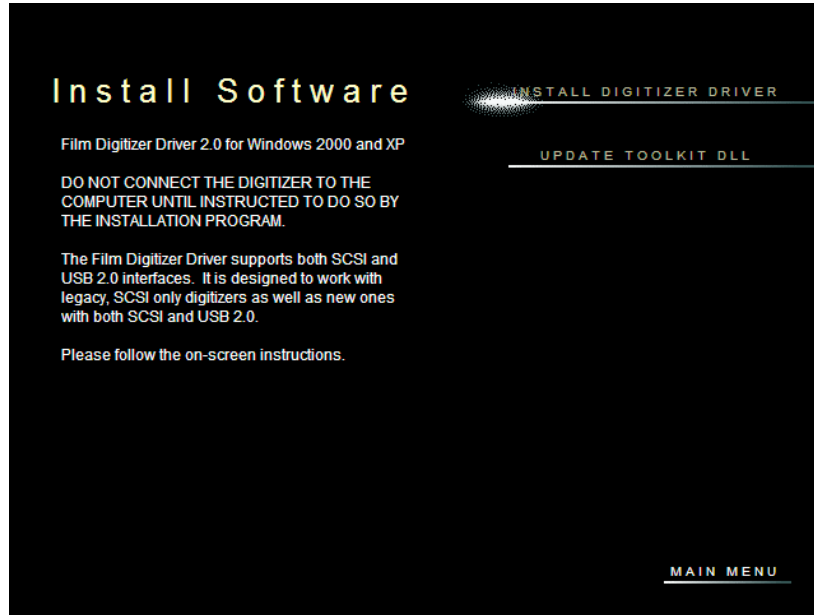

Figure 2
- The window shown in Figure 2 will appear. Select the “INSTALL DIGITIZER DRIVER” option.